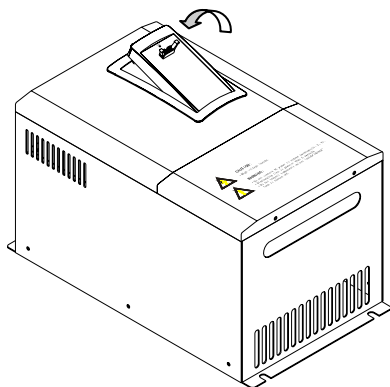

Fig. 3-13 Mounting Diagram for the operator panel and connecting wire of the inverter Model B
Step 2. Plug the connecting wires of the control panel and operator panel into the jack panel provided in the optional components, then fix the jack panel in the installing location of operator panel (as shown in Figure 3-13).